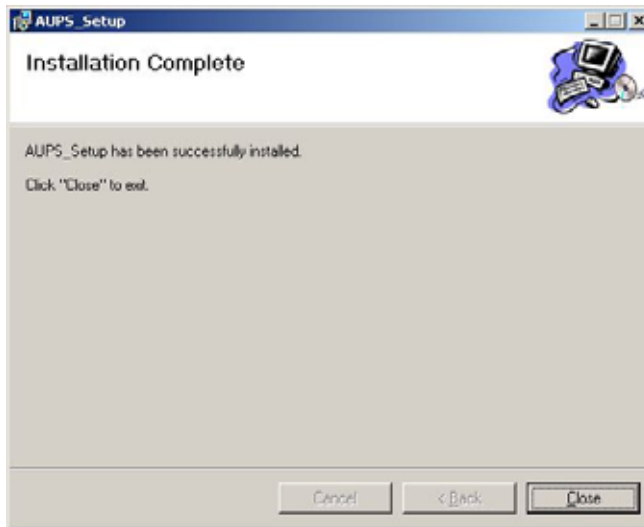

Figure 8-5: Installation Complete
Step 6: The Installation Complete window appears (Figure 8-5). Click **Close** to exit.